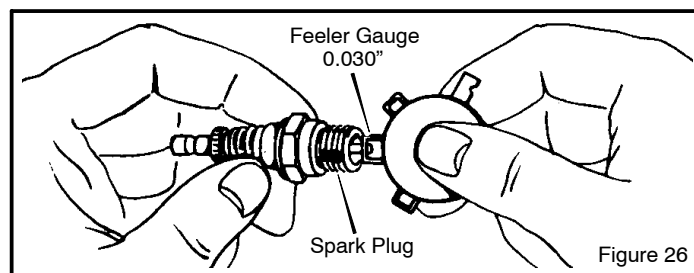

Figure 26
1. Check the gap of the **spark plug** with a **feeler gauge** (Figure 26). The correct gap is **0.030"**.